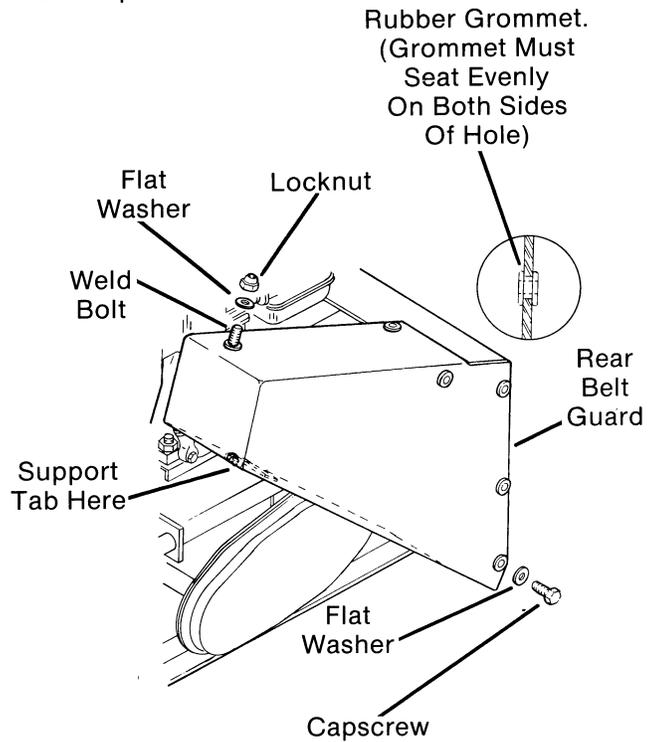

FIG. 6
2. Mount belt guards as shown in (Fig. 6 and 7). Fasten guards with capscrews and flat washers. HINT: Do not tighten capscrews until all screws are in place.